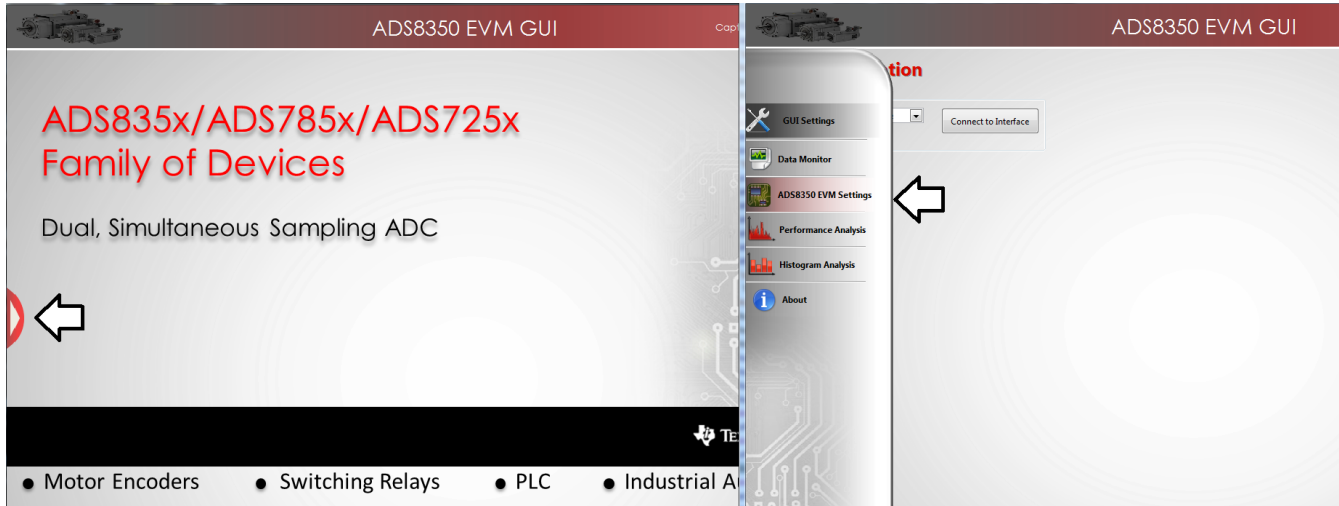

**Figure 15. GUI Display Prompt**
- Step 3. Verify that the software detects the ADS8350EVM. The GUI identifies the EVM hardware that is connected to the controller board and displays *Loading the ADS8350evm Settings*. After the settings are loaded, *ADS8350EVM GUI* displays at the top of the GUI screen, as shown in Figure 15.